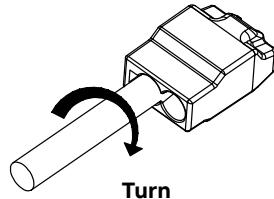

Figure 3
4. To remove wire, twist and pull at the same time. Note that the PIC connector is recommended for a one time use only (Figure 3).